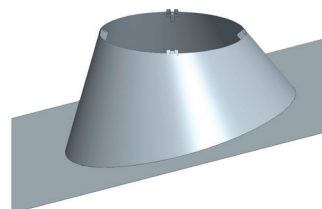

Figure 62 - Adjustable Flashing
The Adjustable Flashing (F30) is used in conjunction with Storm Collar (SC) for weatherization on a roof with a pitch 5° to 30°. See **Figure 62**.
1. Cut opening to dimensions specified in **Table 3**. See **Figure 61** for flat roof and **Figure 62** for a sloped roof.